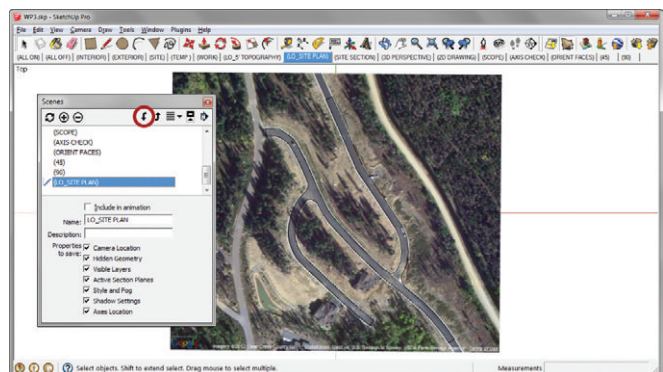

Figure 15.21 The completed LO_SITE PLAN scene in SketchUp
6. Right-click on the LO_SITE PLAN scene tab at the top of the screen and choose Update (Figure 15.21).